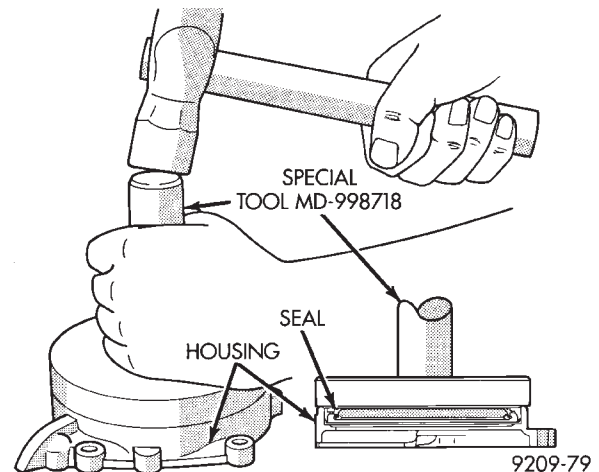

Fig. 12 Install Crankshaft Rear Oil Seal
(1) Install rear crankshaft oil seal in housing with Special Tool MD998718 (Fig. 12).